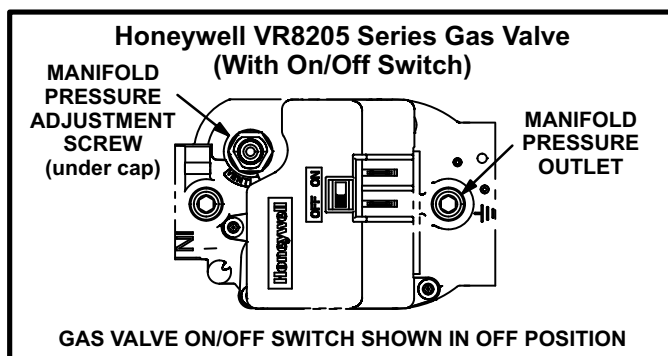

FIGURE 27
Gas Valve Operation (Figures 27, 28 and 29)
- 6 - *Honeywell VR8205 Gas Valve with ON/OFF Switch* - Move gas valve switch to **OFF**. See figure 27.
- 8 - *Honeywell VR8205 Gas Valve with ON/OFF Switch* - Move gas valve switch to **ON**. See figure 27.
- 4 - *Honeywell VR8205 Gas Valve with ON/OFF Switch* - Move gas valve switch to **OFF**. See figure 27.
ral gas at all altitudes is 3.5" w.c. Manifold pressure for all units fueled by L.P./propane gas at all altitudes is 10.0" w.c. See figures 27, 28 and 29 for the location of the manifold pressure adjustment screws.